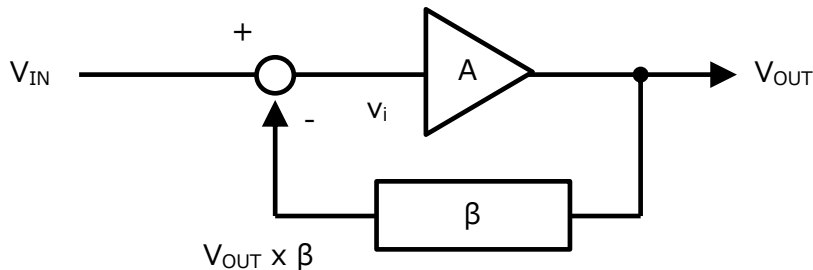
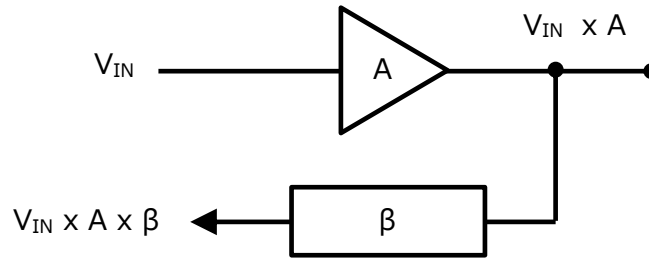

Figure 1. Feedback Circuit
Figure 2. Loop Gain
This section explains the generally feedback circuitry prior to considering the operational amplifier noise gain (NG). Figure 1. shows the principle of the feedback circuit.
In Figure 1,
Figure 2. shows an explanatory diagram of the loop gain. $A \times \beta$ is the feedback loop shown in Fig. 1, and represents the gain from the input V_{IN} to the output of the feedback β .
(4) Assuming that the open-loop gain A of the op-amp is very large as $A \gg 1$ in Equation, the gain G of the negative feedback circuit in Figure 1 can be approximated as $1/\beta$ as in Equation (5).